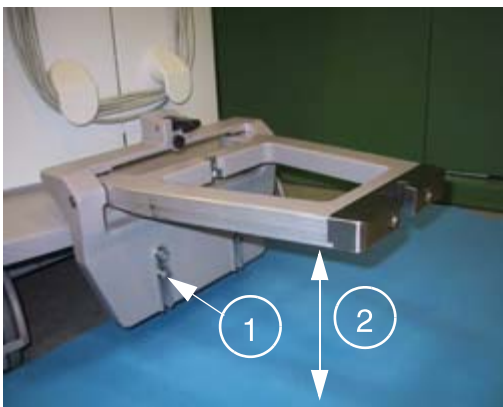

Fig. 10: View 1
- When the Vario moves in, the mandrel must move over the lower part of the sleeve - check heights from the floor (2/Fig. 10 / p. 15). Adjusting screws for adjusting the height of the mandrel, see (1/Fig. 10 / p. 15). Use a level for this adjustment.